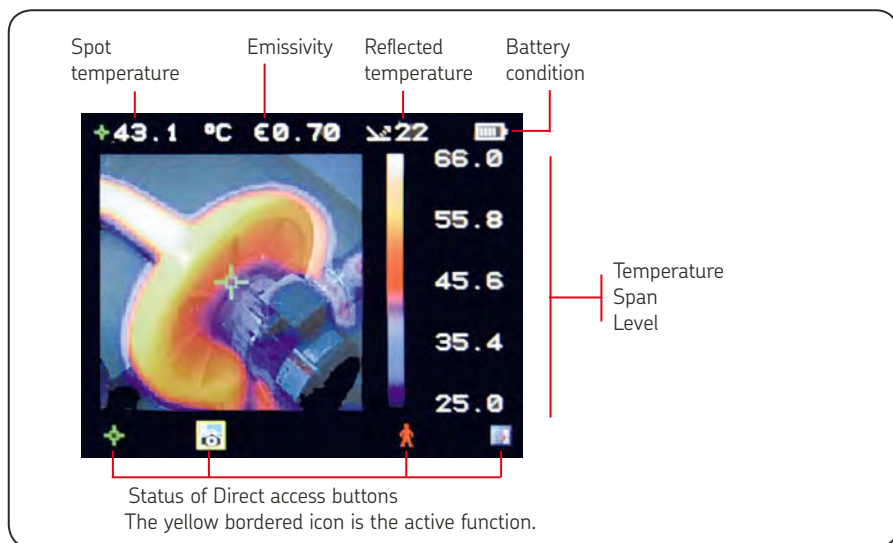

Figure 3. Screen overview
- The battery condition indicator appears on the screen when the imager is switched on (see figure 3).
The Direct access button positions are shown in the below figure. The icon with a yellow border show the selected function that can be adjusted (see also figure 3):